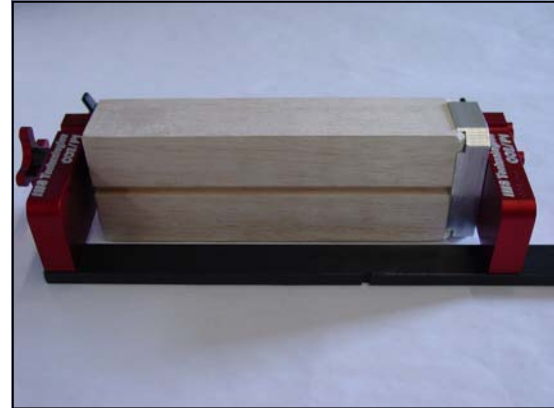

Figure 11 - Right Hand Side Position
- Blank is rotated in the fixture as shown in Figure 11.